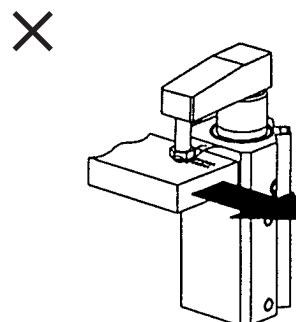

Figure 7
- ⑤ Do not operate the cylinder in such a way that an external force causes the workpiece to move while being clamped (Fig. 7).
- ⑥ Furthermore, do not operate the cylinder in an application in which a rotational force will be applied to the piston rod.
① Do not operate the cylinder horizontally. ❌